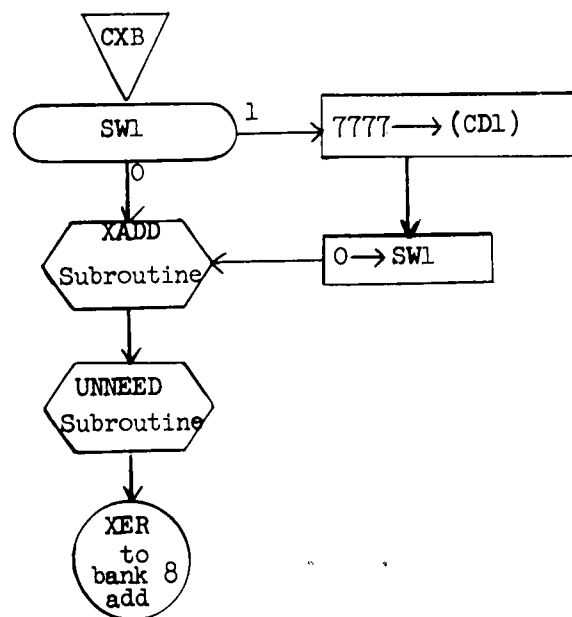

Figure 7.5 CXB
7.2.3.2 CXB Begin, Command - (Figure 7.5)